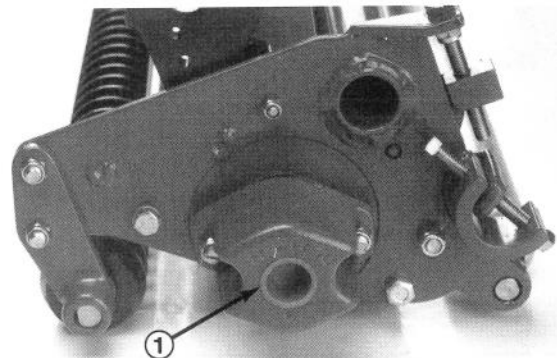

Figure 15
INSTALL REEL SPEED SENSOR (Fig. 15–16)
1. Remove the (2) nuts securing the counterweight to the left end of the left front (#4) and left rear (#2) cutting units and remove counterweights (Fig. 15).